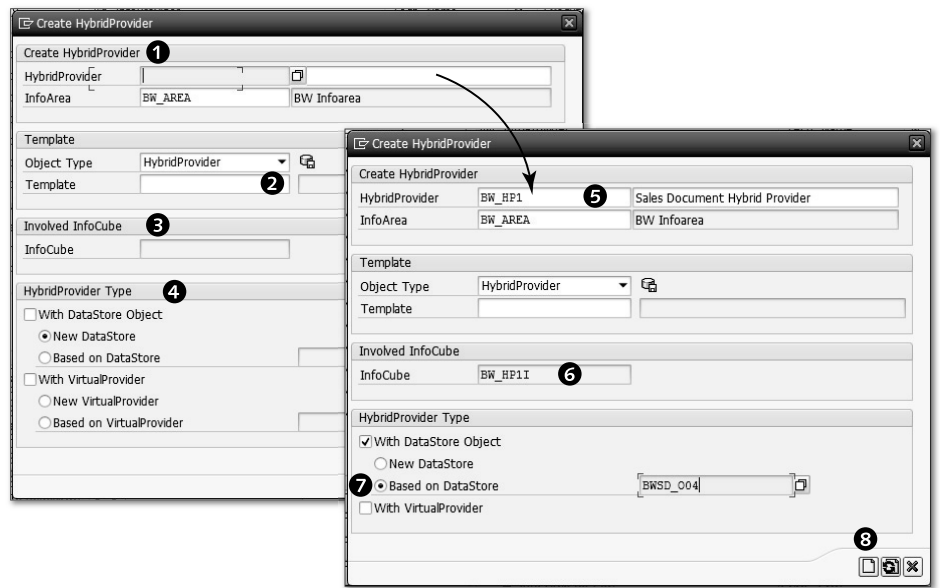
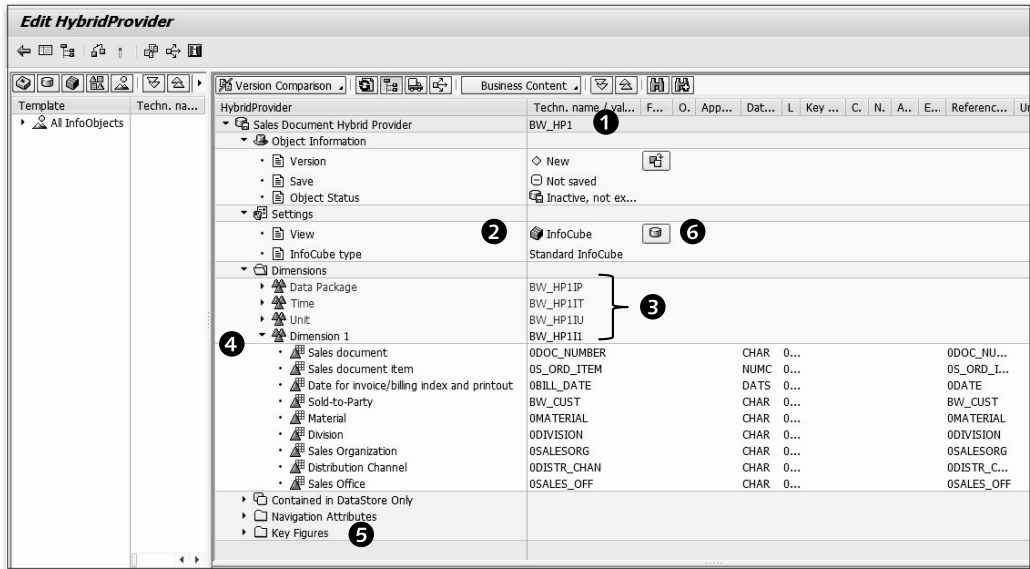
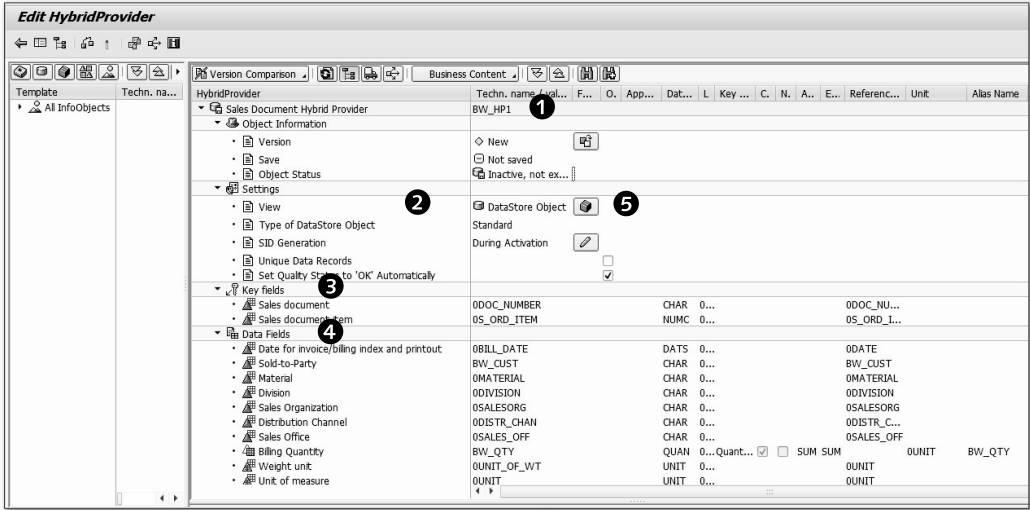

Figure 6.62 Editing a HybridProvider: Part 1
Figure 6.63 Editing a HybridProvider: Part 2
Figure 6.64 DataStore Object View of the Edit HybridProvider Screen
Select the InfoArea BW_INFOAREA under which you want to create your Hybrid-Provider **3**. From the context menu, select CREATE HYBRIDPROVIDER **4**. The CREATE HYBRIDPROVIDER screen appears, as shown in **1** of Figure 6.62.
Using a template (❷ of Figure 6.62) allows you to create a new HybridProvider based on an existing HybridProvider. The InfoCube is part of the definition of the HybridProvider, and the name of the InfoCube involved in the HybridProvider is shown under INVOLVED INFOCUBE ❸. The type of the HybridProvider is selected from HYBRIDPROVIDER TYPE ❹.
As soon as you select this, the system selects the name of the involved InfoCube (BW_HP1I), as shown in 6 of Figure 6.62. To continue with the definition, click on the CREATE icon 8. This brings you to the screen shown in Figure 6.63.
As shown in 1 of Figure 6.63, the name of the HybridProvider is displayed. The system shows the INFOCUBE view 2, which means that the system displays dimensions and key figures, as shown in 3, 4, and 5. The system automatically creates the dimensions Data Package, Time, Unit, and Dimension 1, and all of the involved key figures are shown under the KEY FIGURE heading. You can jump to the DATASTORE OBJECT view by clicking on the DSO icon 6. This switches the display to the DSO view of the HybridProvider, as shown in Figure 6.64.
As shown in Figure 6.64, the definition of the DSO ❶ included in the HybridProvider is shown with SETTINGS ❷, KEY FIELDS ❸, and DATA FIELDS ❹. By clicking on the INFOCUBE icon ❺, you can switch back to the InfoCube view.